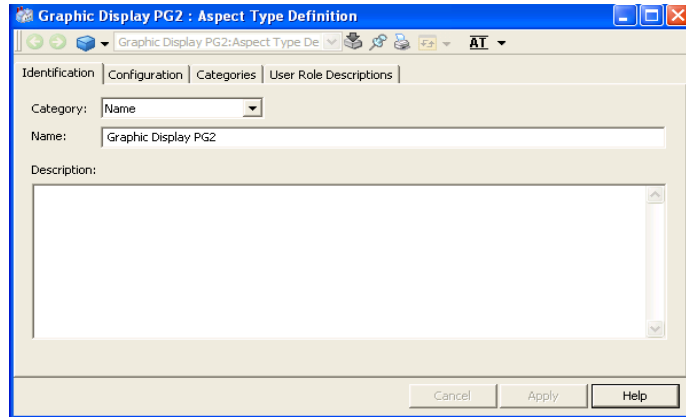

Figure 255. Aspect Type Definition
2. Right-click on one of the aspect types. For example, right-click on **Graphic Display PG2** and select **Aspect Type Definition** from the context menu. The **Aspect Type Definition** dialog appears as shown in Figure 255.